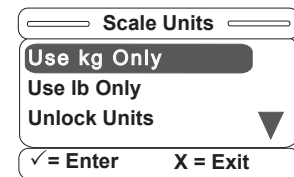

Figure 41
2. The Scale Units Screen with display Figure 41 with the current state as the highlighted item.